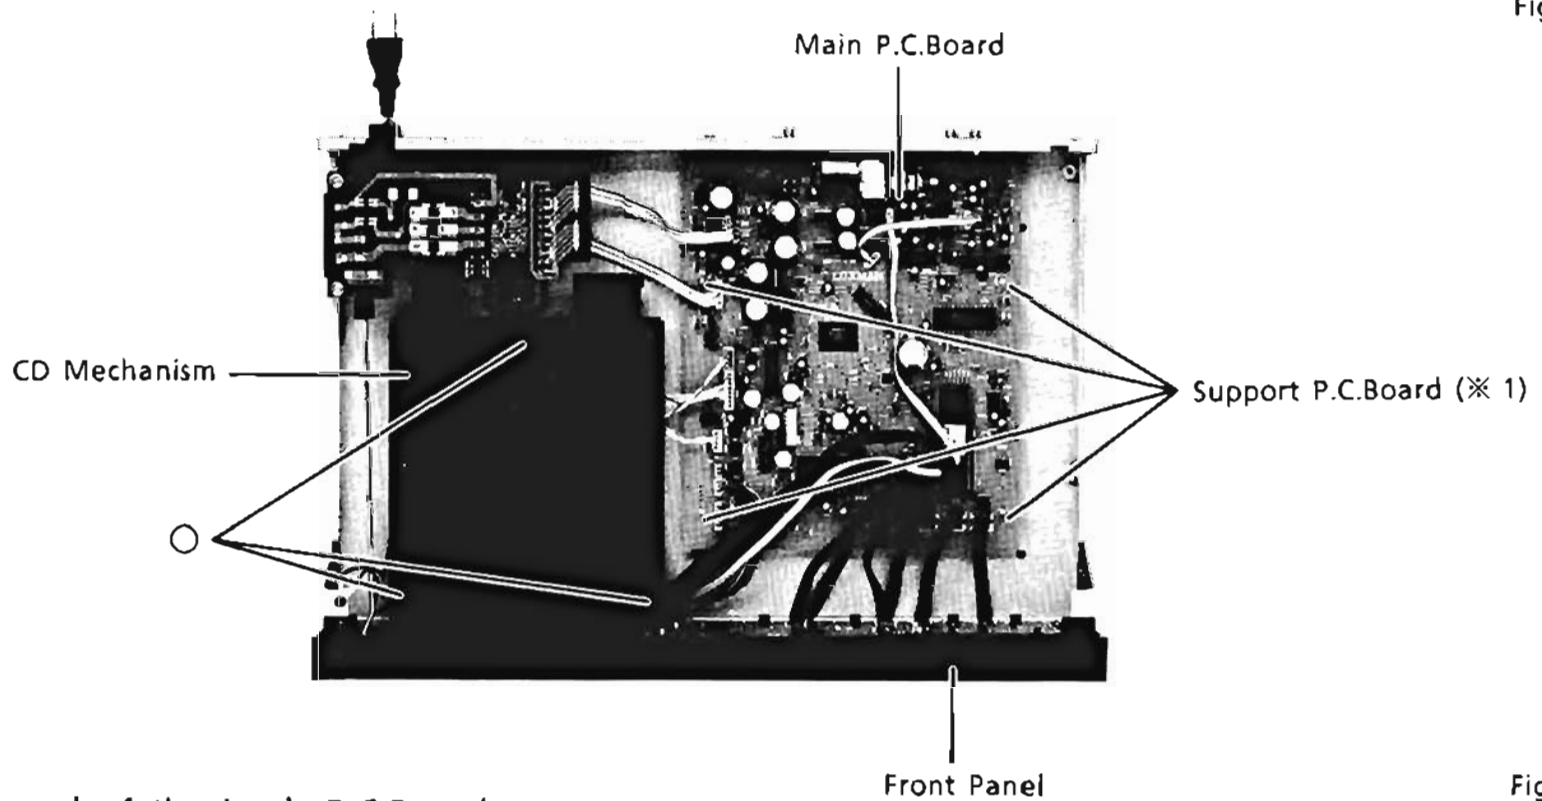

Figure 2
- (3) Remove three screws marked "○" as shown in Figure 2.
- (4) Disconnect all wires from the CD Mechanism.
- (2) Remove four Supports P.C.Board (※1) from the Main P.C.Board as shown in Figure 2, by pushing the point "A" as shown in Figure 4.
- (3) Disconnect all connectors from the Main P.C.Board.